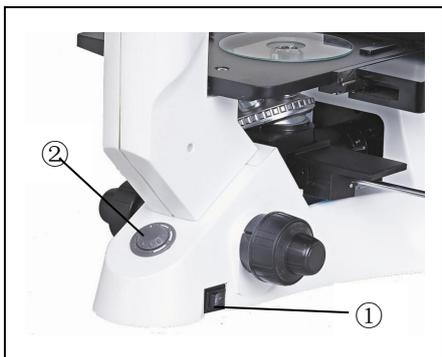

Fig 13
3.2.1 Turn on power, adjusting brightness(Fig 13)
Connect the power, turn on the main switch① (shown on the Fig.13) which on the bottom side of the base to “ — ”(on). Turning the brightness adjustment knob clockwise②, the voltage raise, and the brightness strengthen; whereas turning at the contrary direction, the voltage decline, and the brightness weaken.